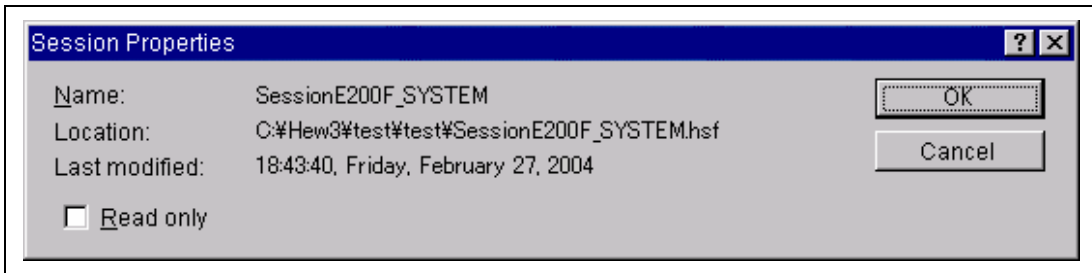

Figure 4.36 [Session Properties] Dialog Box
3. Click the [Properties] button to display the [Session Properties] dialog box (figure 4.36).